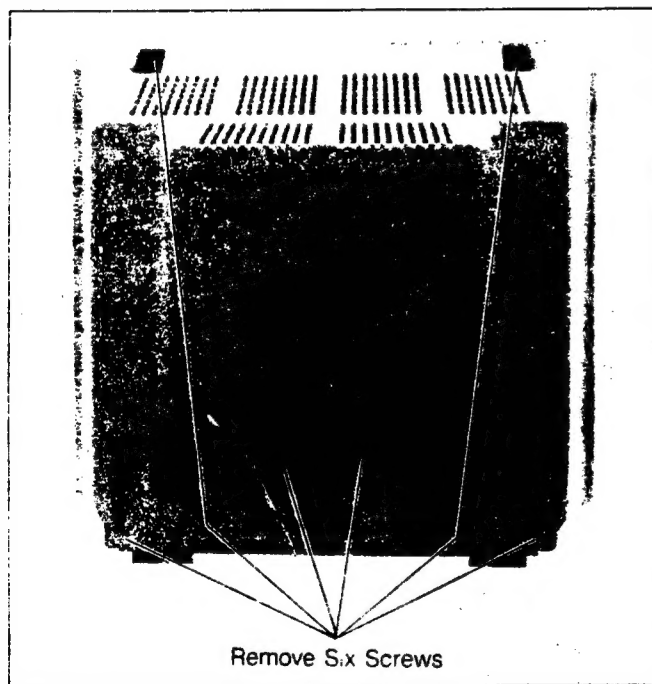

Fig. 3
## CHASSIS REMOVAL (SEE FIGS. 3/4)
1. Remove the six screws securing the rear cover of the cabinet. (See Fig. 3)